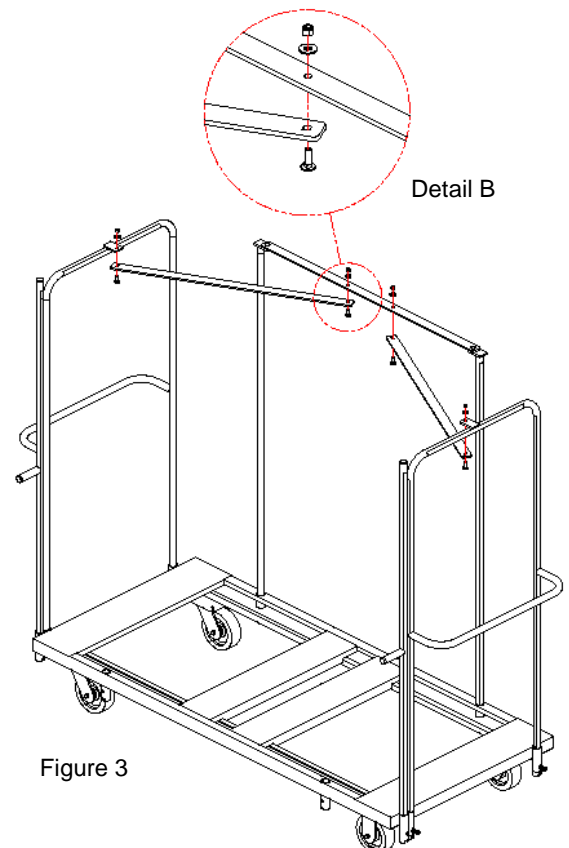

Figure 3
6. Attach one Diagonal Brace (with Neoprene facing the floor) to the underside of the Handle & Rear Support Strap (See Figure 3, Detail B) using 2 5/16" Carriage Bolts, washers, & nyloc nuts. Bolts must be inserted from the underside. Hand tighten.